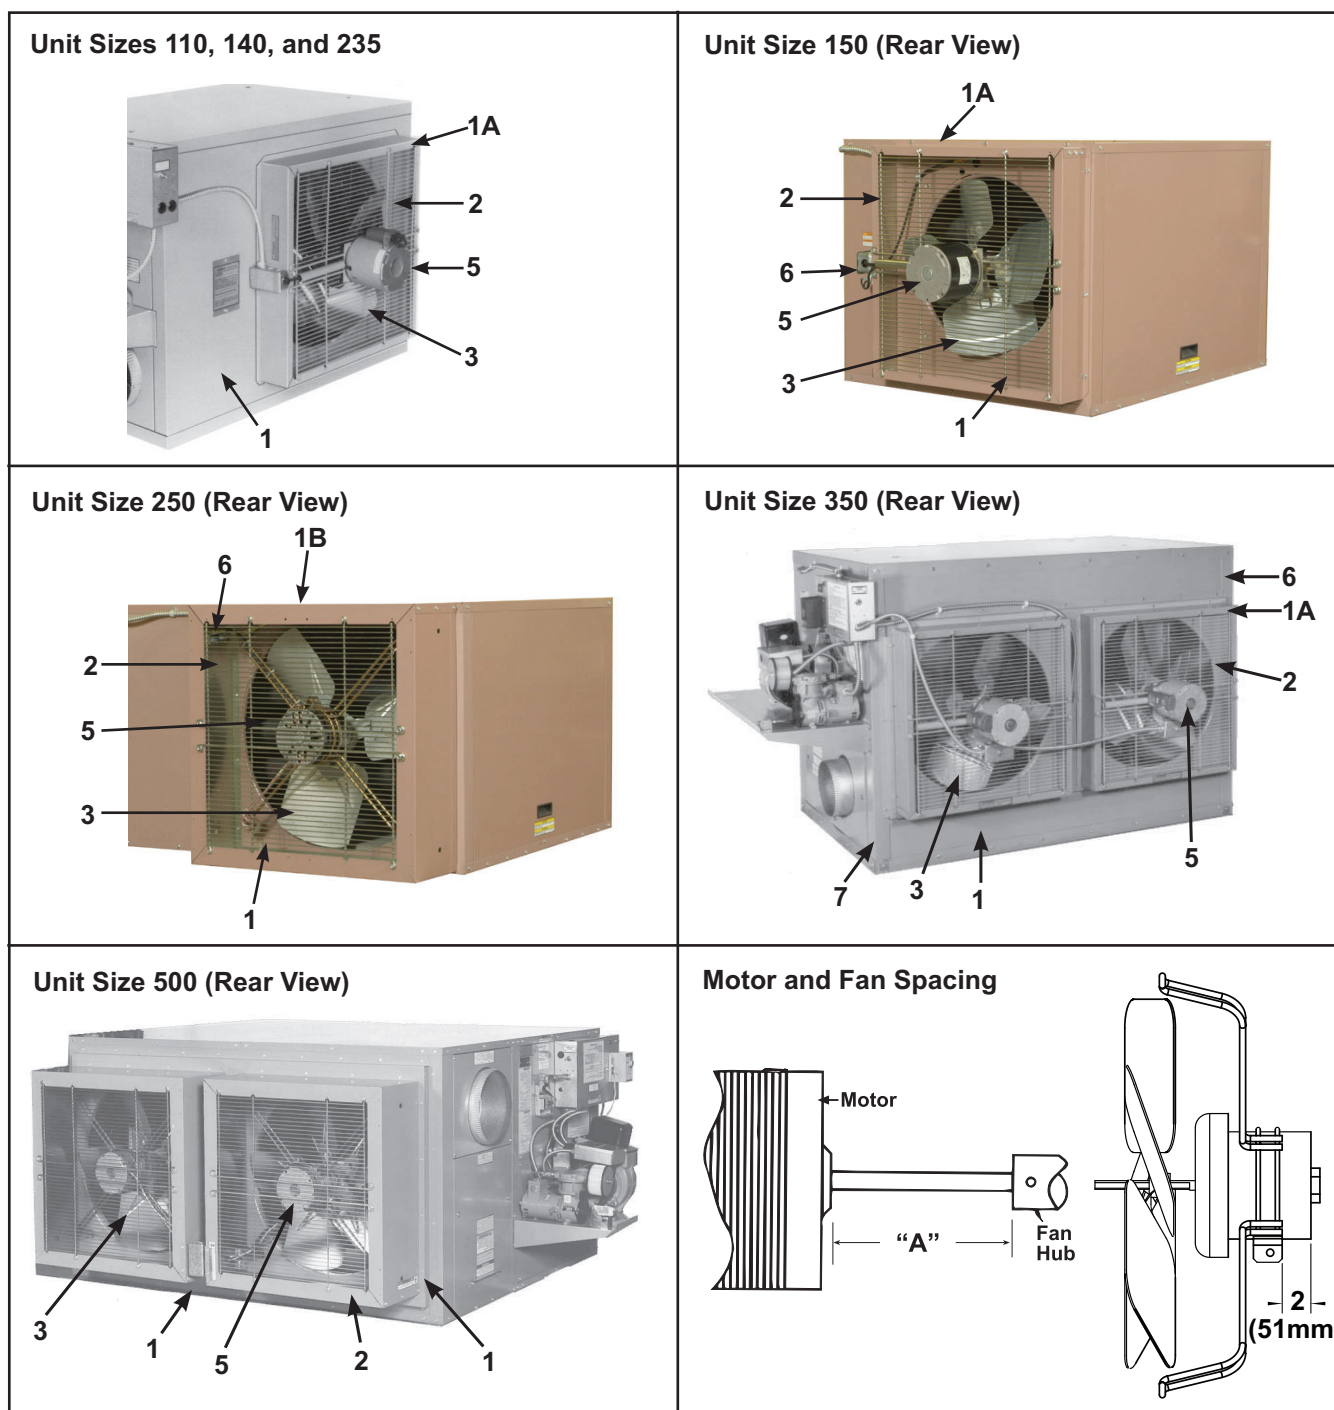

Figure 20. Cabinet and Fan Components—Model RA (Refer to Table 12)
- Cabinet and fan components for model RA are shown in Figure 20 and are listed in Table 12.